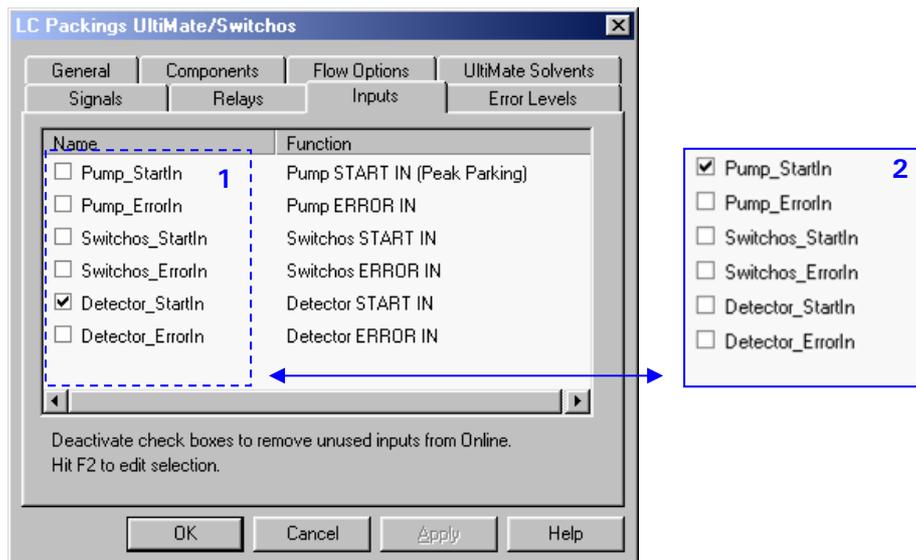

FIGURE A-11. The Input Tab
- c) Click on the **Inputs** tab and check the name of the instrument to which the manual injection valve is connected to. As an example, check **Detector_StartIn** if the start input of the UV Detector is used (item 1, FIGURE A-11) or check **Pump_StartIn** if the input of the Micropump is used (item 2, FIGURE A-11).